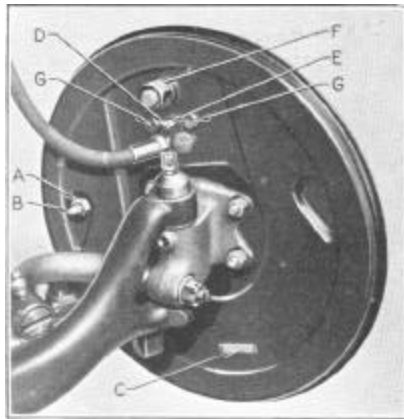

Figure 59
1. Remove screw (D), Figure 59, and screw the end of the bleeder tube (A), Figure 58, in its place and allow end of tube to hang in a jar partially filled with liquid.
2. Unscrew bleeder valve (E), Figure 59, three-quarters of a turn.
4. Close bleeder valve (E), remove bleeder hose, and replace screw (D), Figure 59.
- (1) Jack up all wheels clear of the floor.
- (2) Disconnect rear wheel cables from equalizer bar cable plate.
(3) After removing adjusting hole cover (C), Figure 59, and gauge hole covers in brake drums, AT EACH WHEEL, loosen eccentric lock nut (A), and insert .010" feeler gauge between the lining of secondary (eccentrically controlled) shoe and brake drum. Turn the eccentric adjustment in the direction of forward wheel revolution until .010" feeler is just snug at anchor and adjusting ends of secondary shoe. Tighten eccentric lock nut.